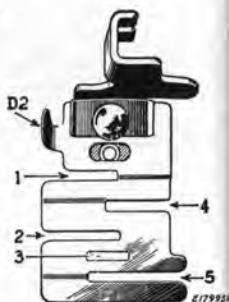

FIG. 51
The distance from the line of stitching to the edge of the material in the slots is regulated by moving the lug **D2**, **Fig. 51** to the right or left.
- (1) Insert one of the laces in slot **1** of the edge-stitcher and the other in slot **4**, **Fig. 51**.
- (2) Adjust the lug **D2** until the edges to be joined are caught by the stitching.
- (3) Slightly overlap the edges of the lace while stitching to keep them against the ends of the slots.
- (4) Loosen both thread tensions to avoid puckering of fine lace.
- (1) Fold the edge of the material to which the lace or ribbon is to be sewn and insert it in the slot 1, **Fig. 51** of the edge-stitcher.
- (2) Insert the lace or ribbon in the slot 4 of the edge-stitcher and proceed to sew.
- (3) Cut away the surplus folded material close to the stitching.
- (1) Cut the piping bias and twice the width of the slot **3** so that it can be folded once.
- (2) Insert the piping with its folded edge to the left in slot **3** and the edge to be piped in slot **4**, **Fig. 51**.
- (1) Place the garment under the edge-stitcher and the tape in slot **1** or **4**, **Fig. 51**.
- (1) A wide hem may be stitched evenly on sheets, pillow slips, etc., with the edge-stitcher after the hem has been measured and the edge turned.
- (2) Insert the edge in slot 5, Fig. 51, and adjust the lug D2 to stitch as close to the edge as desired.
- (1) To make a uniform width French seam, insert the two edges to be joined, wrong sides together, in slot 1 or 2, Fig. 51 and stitch close to the edge.
- (2) Fold both right sides together and insert the back of the seam in the slot 1 and stitch, allowing just enough margin to conceal the raw edges.
- (1) Fold and crease the material for the desired width of tuck.
- (2) For succeeding tucks, fold the material the desired distance from the previous tuck, running the fold lengthwise over a straight edge, then crease the folds.
- (3) Insert the creased folds in the slot **1**, **Fig. 51** and adjust the edge-stitcher to the right or left for the desired width of tuck. Use a light tension, short stitch and fine thread and needle.